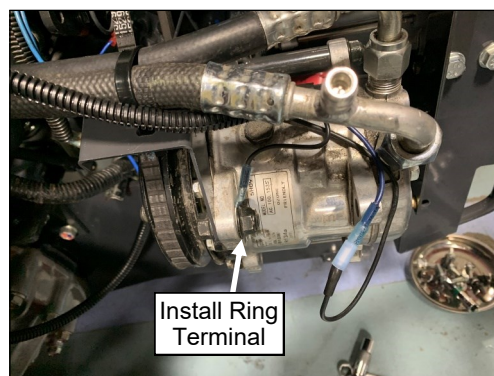

Fig. 7.13 (Connect Dynamo Wiring)
- 7.13 See fig. 7.13. Connect the female bullet terminal on the end of the blue wire to the male bullet terminal on the compressor.
- 7.14 Remove the bolt shown in figure 7.13 and install the 3/8" ring terminal from the A/C harness onto the bolt so that it is contacting the ear of the compressor.